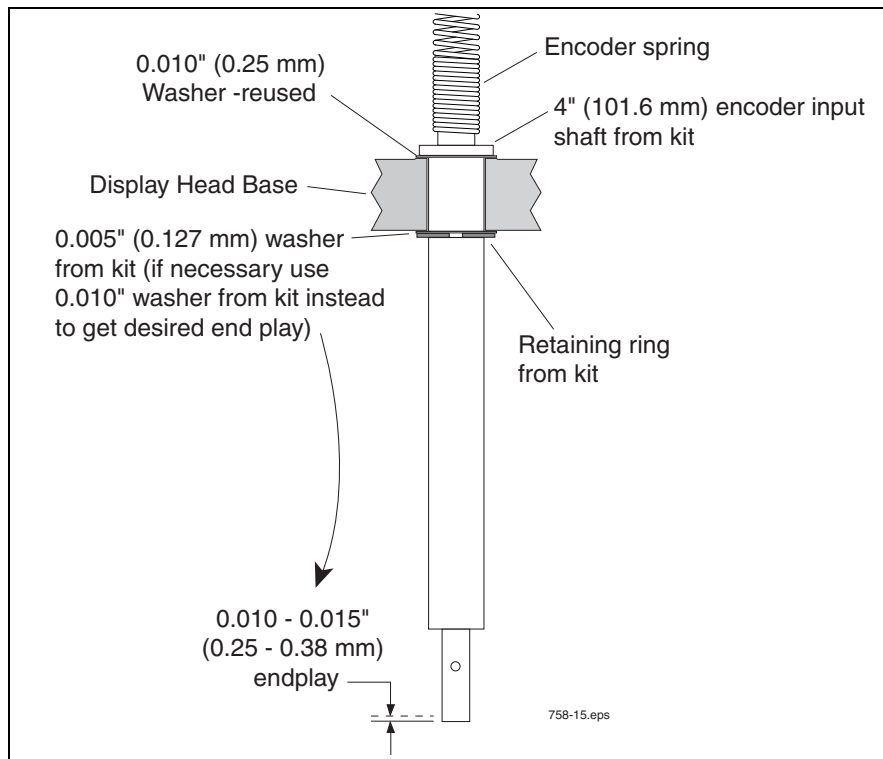

Figure 16. Assembling Neptune Adapter Shaft Group To Display Head
14. Assemble the new shaft, the 0.010" washer you removed from the Display Head shaft in the previous step, the 0.005" washer, and the retaining ring in the Display Head base as shown in Figure 16. If the 0.010 - 0.015" end play is exceeded, remove the retaining ring and replace the 0.005" washer with the 0.010" washer.